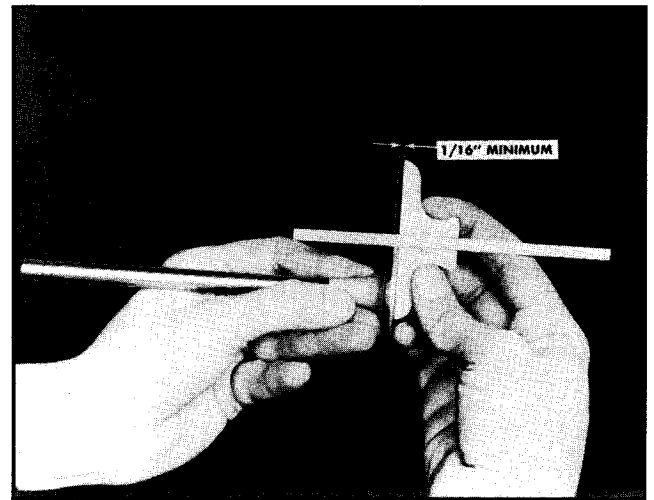

Fig. 3-17. Checking thickness of valve head rim
6. Check rim thickness as shown in Fig. 3-17. If rim is thinner than 1/16 inch, valve is not suitable for use because of the danger of burning and cupping.